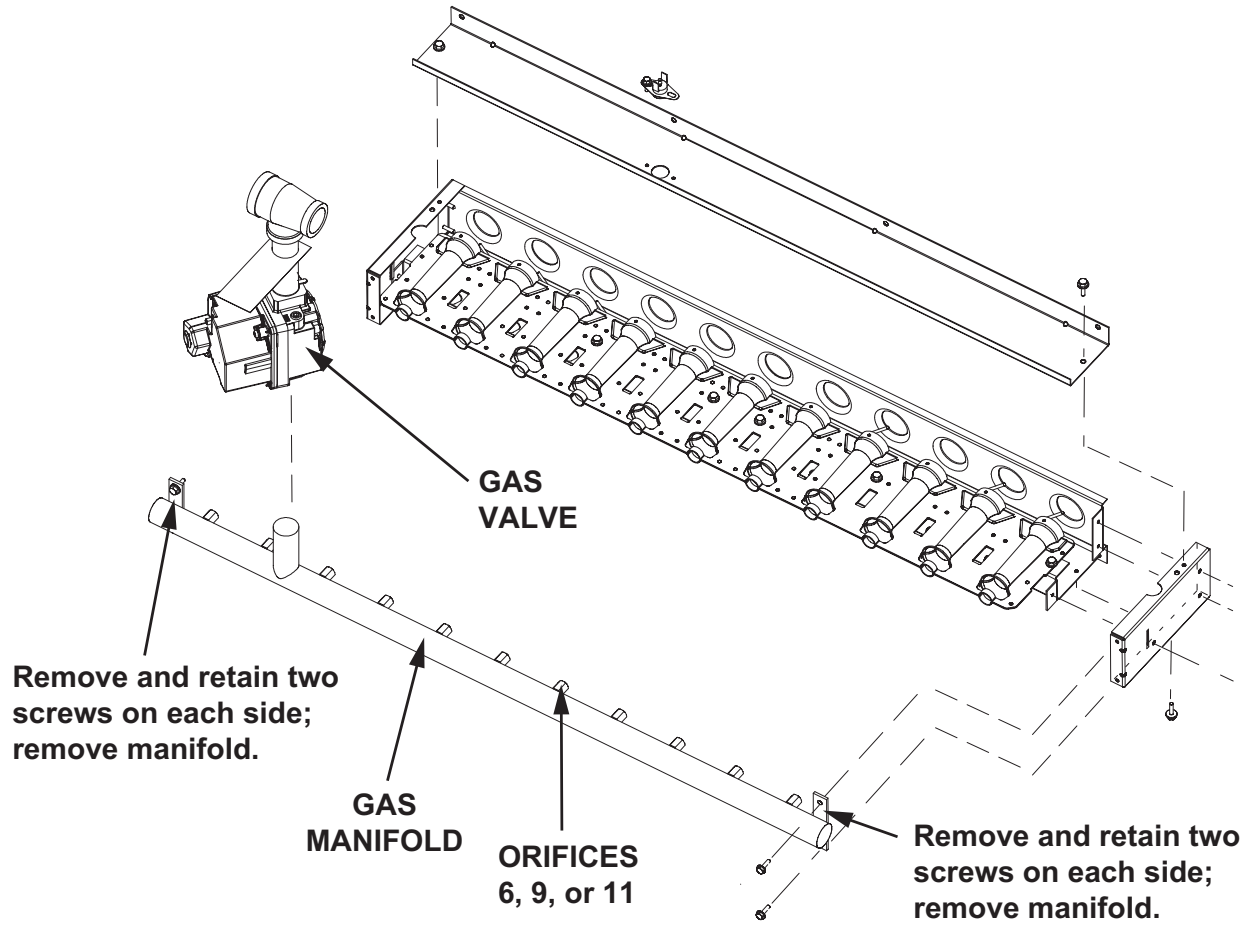

FIGURE 2
- 7 - Remove and retain four screws securing manifold to burner box; remove manifold. See FIGURE 2.